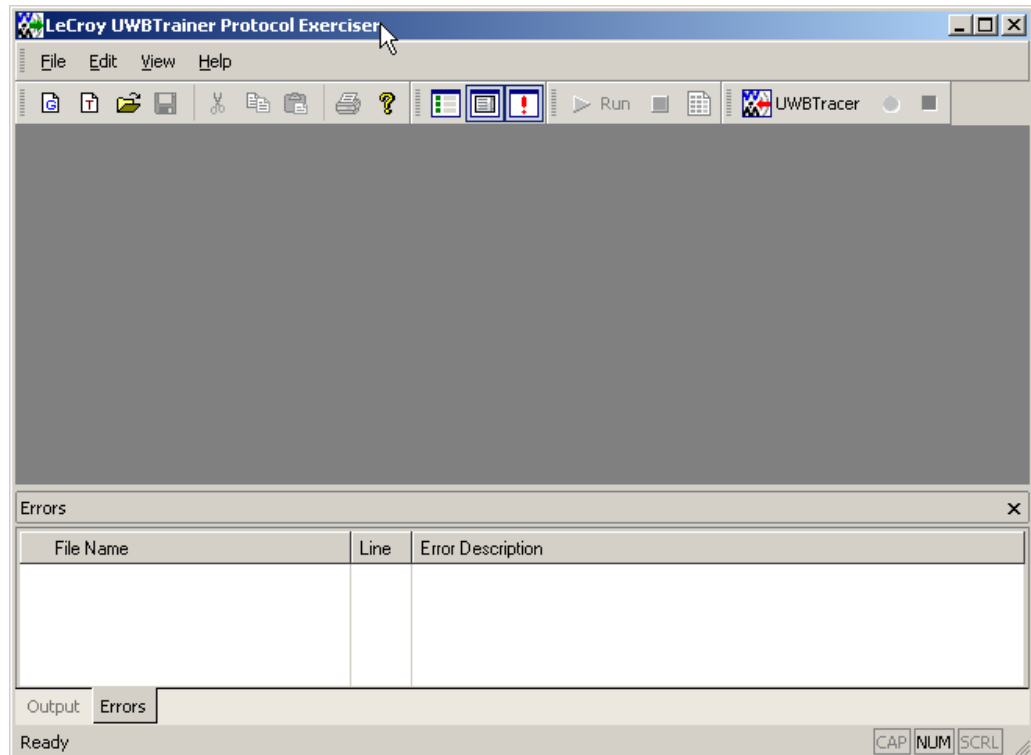

Figure 14.2 UWBTrainer Main Window
- Step 1** While running UWBTracer/Trainer, select the **UWBTrainer** button to display the LeCroy UWBTrainer Protocol Exerciser window (Figure 14.2).